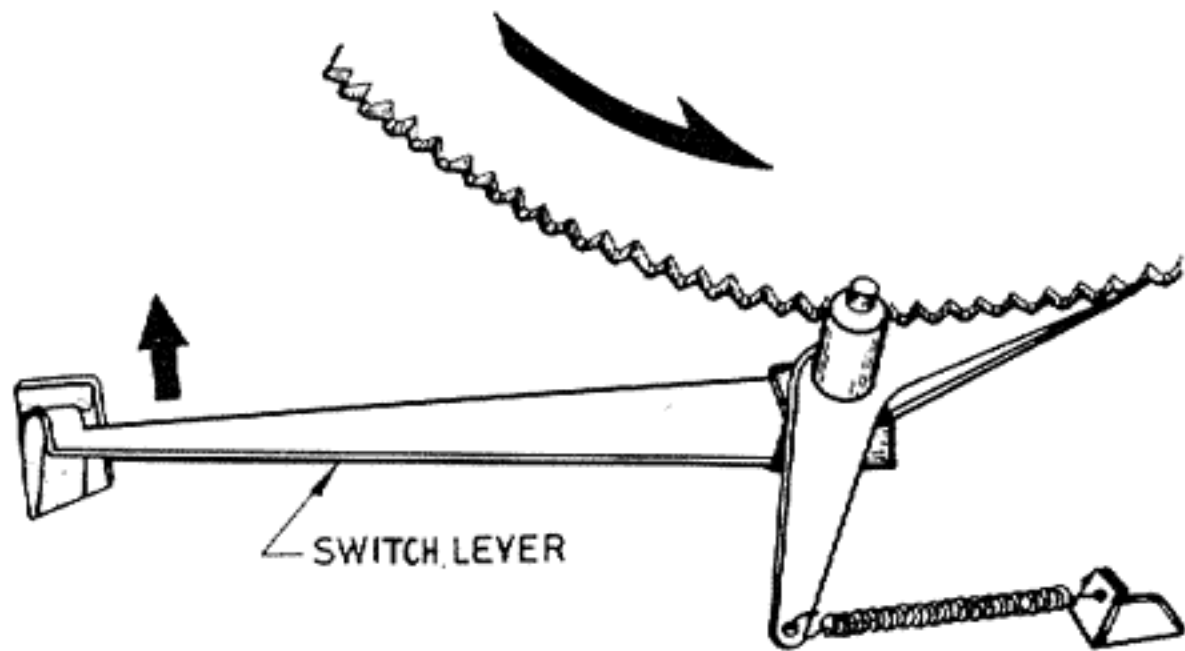

Fig. 10
- 3) The rotation of the gearing causes the slide plate and the switching lever to push the contact after the pick-up has fully risen. The motor is automatically switched off (Auto-Stop). The pick-up remains in the upper position; it does not return. (Fig. 10)